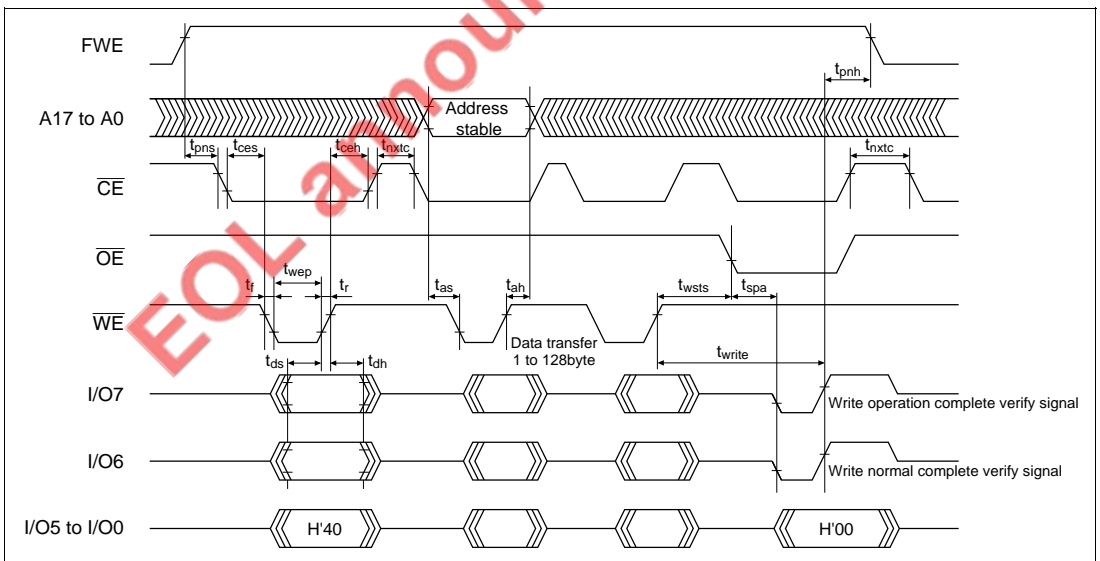

Figure 16.23 Auto-Program Mode Timing Waveforms
4. Memory address transfer is performed in the second cycle (figure 16.23). Do not perform transfer after the third cycle.